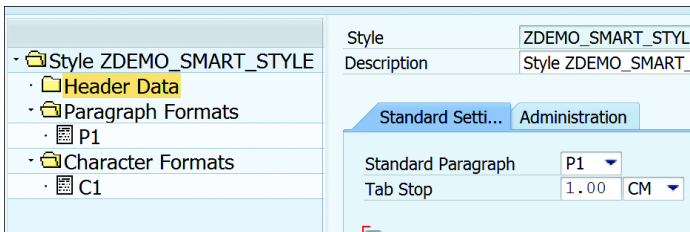

Figure 18.58 Assigning Default Paragraph
7. Once you define at least one paragraph format, assign the default paragraph format for the style in the HEADER DATA node by selecting one of the paragraph formats from the dropdown list for the STANDARD PARAGRAPH field, as shown in Figure 18.58. Once the default paragraph format for the style is assigned, click the ACTIVATE button in the toolbar to activate the style.